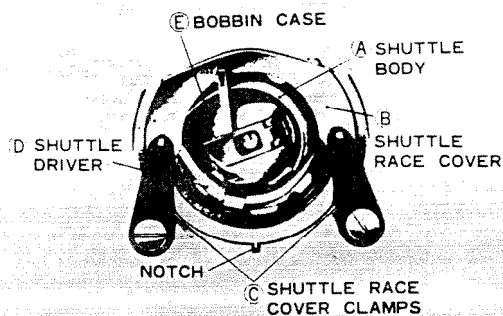

Fig. 55
1. Turn hand wheel until the needle reaches its highest position. The mechanism will assume the position illustrated in (Fig. 55). Tilt head back on its hinges.